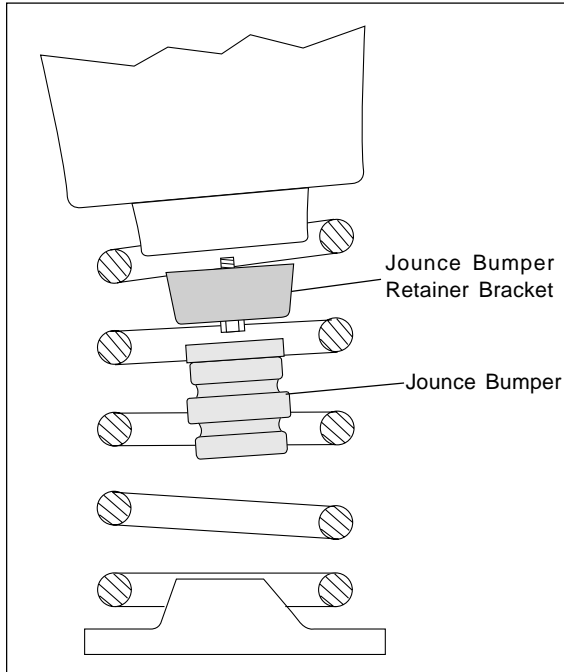

Figure 1
2. Pry the stock jounce bumper out of the jounce bumper bracket and discard (Figure 1).
3. Remove the upper jounce bumper retainer bracket by removing the bolt holding it in place (Figure 1). These parts will not be reused.